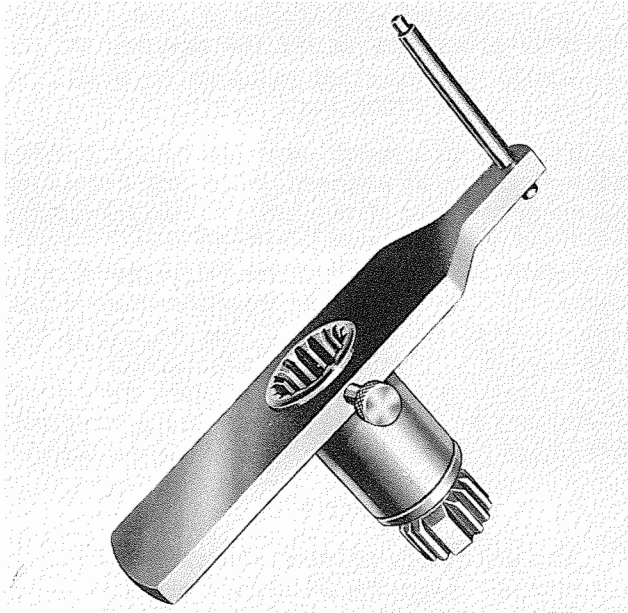

Figure 7-109. Fuel Injection Pump and Pump Drive Gear Spline Aligning Fixture
- a. Use fixture 807748, shown in figure 7-109, to align the fuel injection pump drive coupling with the drive gear. Loosen the knurled lock screw in the fixture. Place the fixture on the fuel injection pump adapter with the short locating pin in the dowel hole adjacent to the uppermost fuel hole in the adapter, and the blind external spline on the fixture shaft meshed with the blind spline in the drive gear. Lock the fixture shaft in this position by tightening the knurled lock screw. Remove the fixture from the adapter.